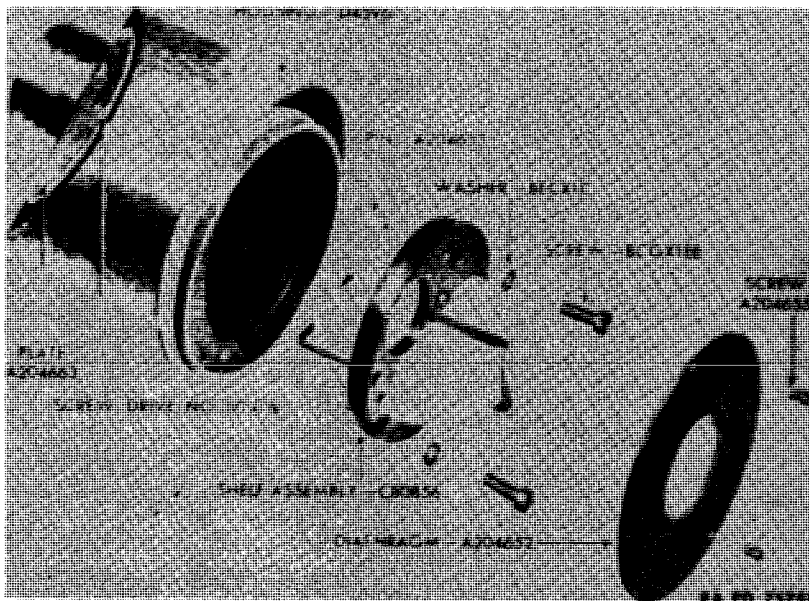
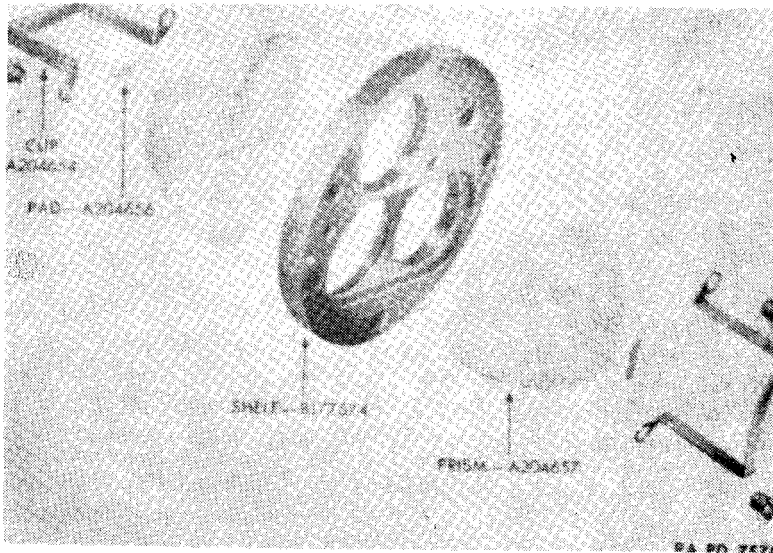

Figure 11 - Observation Telescope M48-Prism Housing Assembly C80855 Partially Disassembled
Figure 12-Observation Telescope M48-Prism Shelf Assembly C80856 Disassembled
a. Record the serial number from the name plate. The name plate is located on the housing (figs. 11 and 17).
(3) Loosen screws A204655 (fig. 11) that hold the diaphragm, and remove diaphragm (fig. 11).
(4) Remove screws BCGX1EE and washers that hold the prism shelf assembly and lift out the shelf assembly.
d. Disassembly of Prism Shelf Assembly. Remove the screws (fig. 12) that hold the prism clips in place and remove the clips with